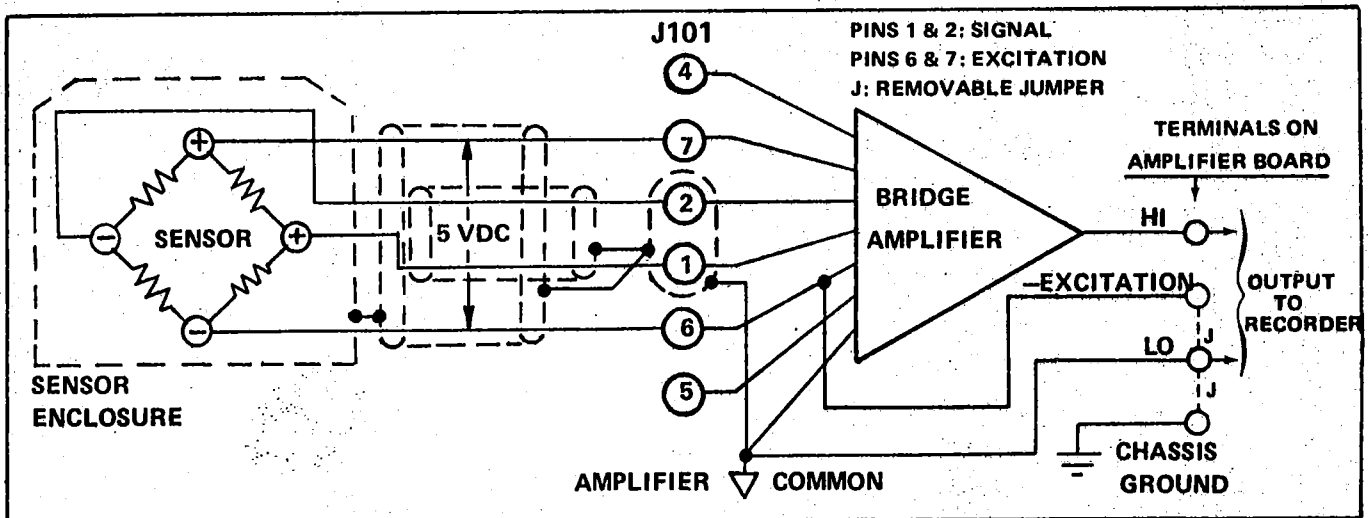

FIGURE 3-3 CONNECTING FULL-BRIDGE SENSORS
3.4.1 Four Arm Gage (Figure 3-3)